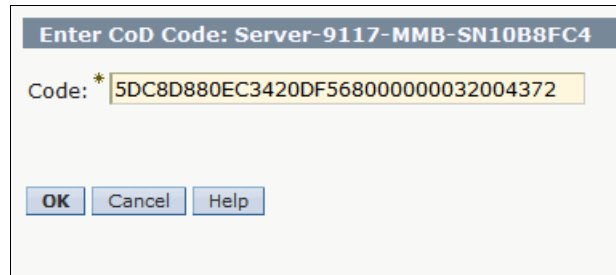

Figure 4-42 HMC Capacity on Demand enter code panel
- iii. Enter the code for each resource, processor core, or memory, as shown in Figure 4-42.